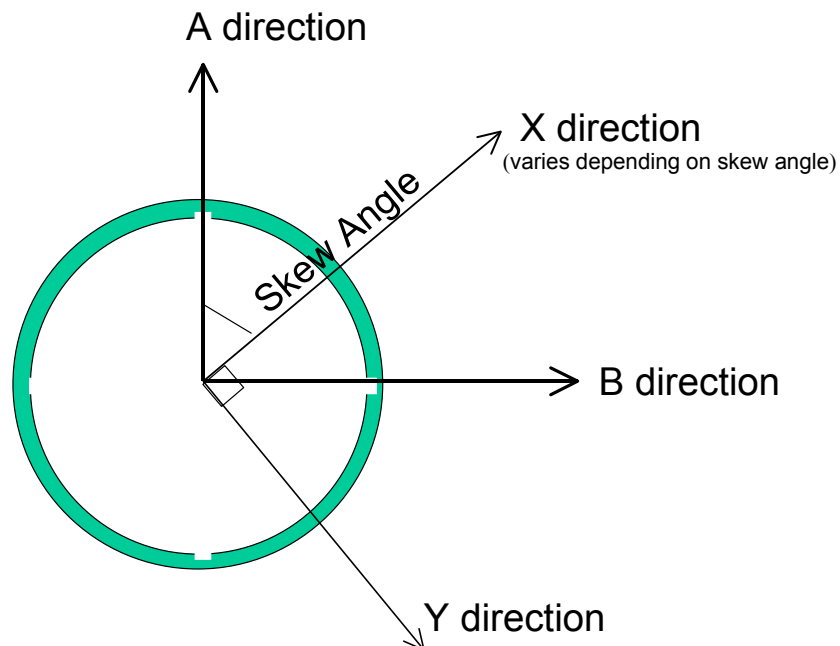

Figure 4
**Skew Angle** is the direction of the X direction measured in degrees clockwise from the A0 direction. The X and Y directions, defined as shown in Figure 4, allow rotation of axes in order to handle situations where the casing grooves do not coincide with the principal directions of interest. A non-zero value in this data field leads to a doubling of the number of plot type choices presented in the Plot Types menu.